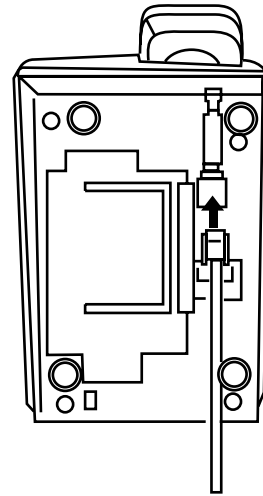

Figure 2.19
- (4) After installing the connection cable to the telephone set, extend the connection cable like Figure 2.19.